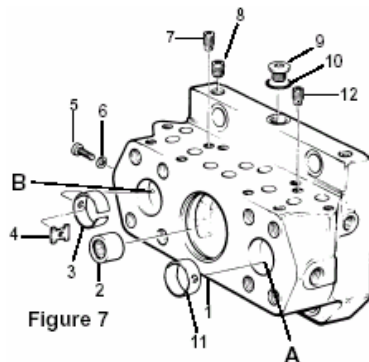

Figure 7
**See Figure 7.** Position the port block (1) on a clean flat surface with the two open ports up. **THE OPPOSITE FACE MUST NOT BE SCRATCH OR DAMAGED.** Position needle bearing (2) on tool (figure T-5) with the marked end of the bearing against the shoulder on the tool and press the bearing (2) into the port block. The bearing must be .010" - .025", 0,254 - 0,635 mm below the surface.
**PARTS LIST FOR FIGURE 7**
| 2    | Port block assembly                  | See Fig. 7 | 1    |